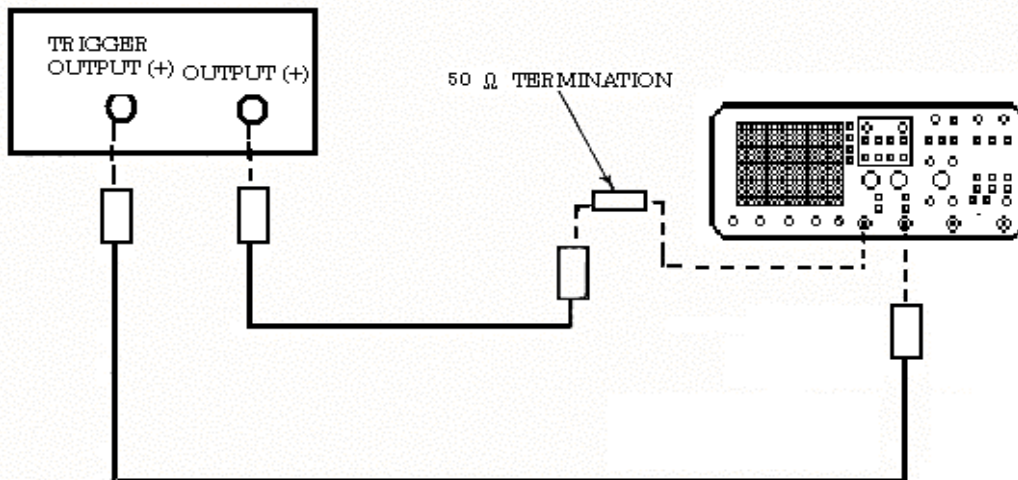

Figure 2. Pulse delay - equipment setup.
(1) Connect equipment as shown in figure 2 and set oscilloscope to trigger off channel 2.
- (1) Connect equipment as shown on figure 2.
- (2) Position controls as listed in (a) through (c) below:
(3) Adjust **PULSE WIDTH VERNIER** control fully cw. Measure pulse width, using standard measurement technique. If oscilloscope does not indicate a pulse width between 1.1 and 1.5 μ s, perform **b** below.
(4) Repeat technique of (2) and (3) above, using TI settings listed in table 5. Pulse width will be within limits specified.